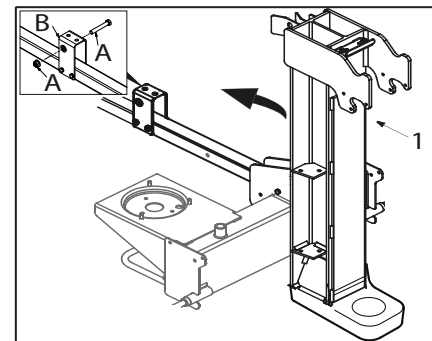

Fig. 6a
- Remove bolt and nut (A) from holder (B).
- Tilt the column (1) into a horizontal position (Fig. 6a).